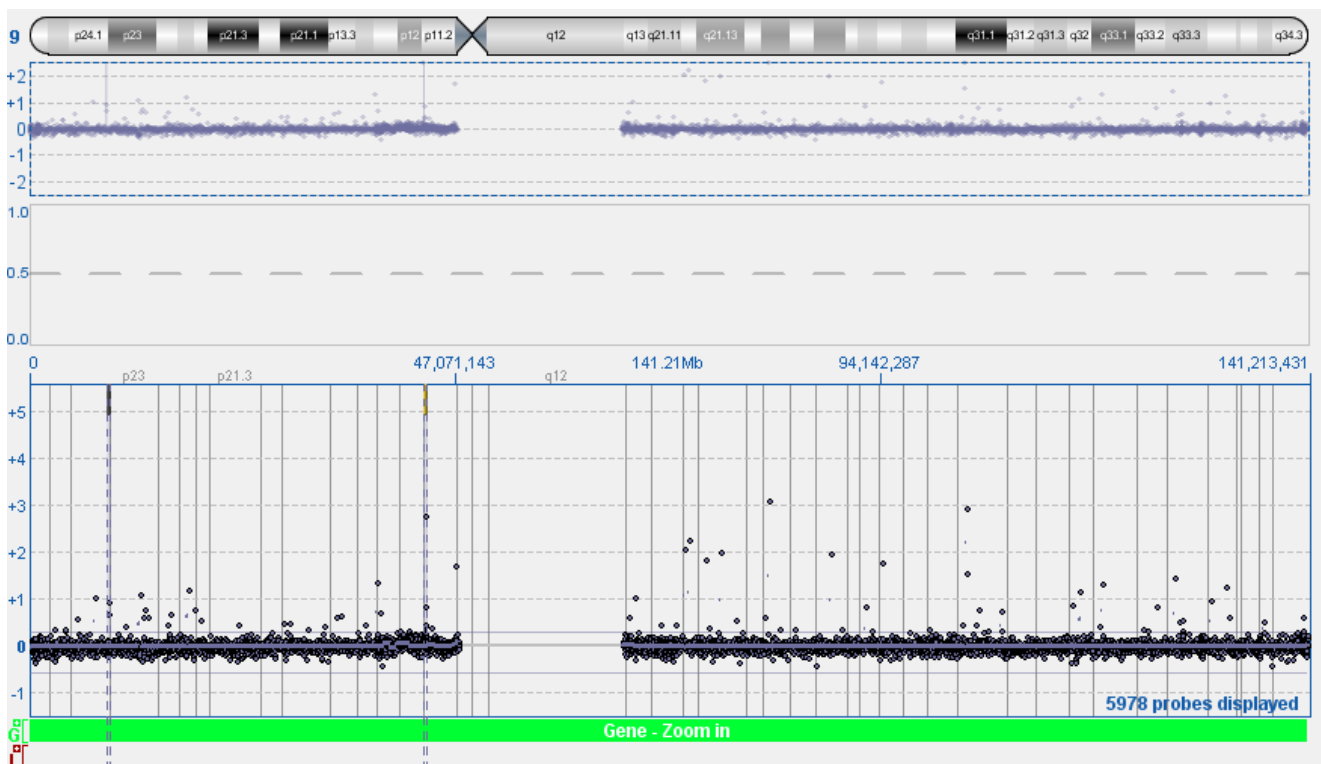

Figure 27: Snapshot image of Overview and Chromosome Sections of the Genomic View tab.
1. To save a png image of the **Overview** and **Chromosome Sections** of the **Genomic View** tab, select **File -> Export -> Current Selection Image** and then choose a save name and location. An example of the resulting image can be seen in Figure 27.